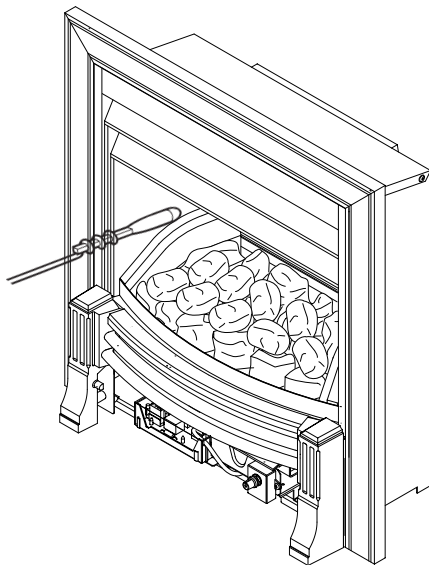

Fig. 32
8.2 The Spillage Checking Procedure (Figs. 32 & 33)